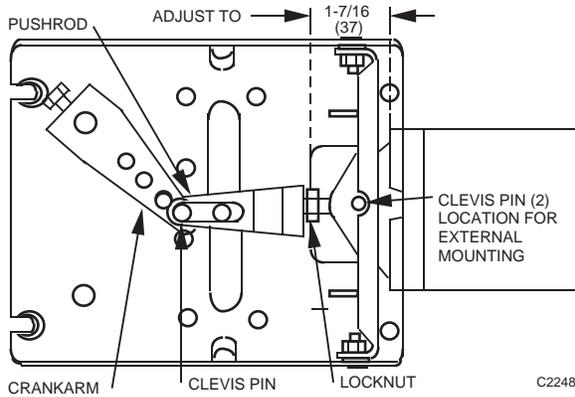

Fig. 30. Clevis Pin Locations.
7. Loosen locknut and adjust pushrod to dimensions shown in Fig. 30.
9. Reinstall actuator noting change in clevis pin location (Fig. 30).
10. Install one crankarm on pushrod with a clevis pin (Fig. 30).
4. Remove clevis pins and actuator (Fig. 30).
6. Loosen locknut and adjust pushrod to dimensions shown in Fig. 30.